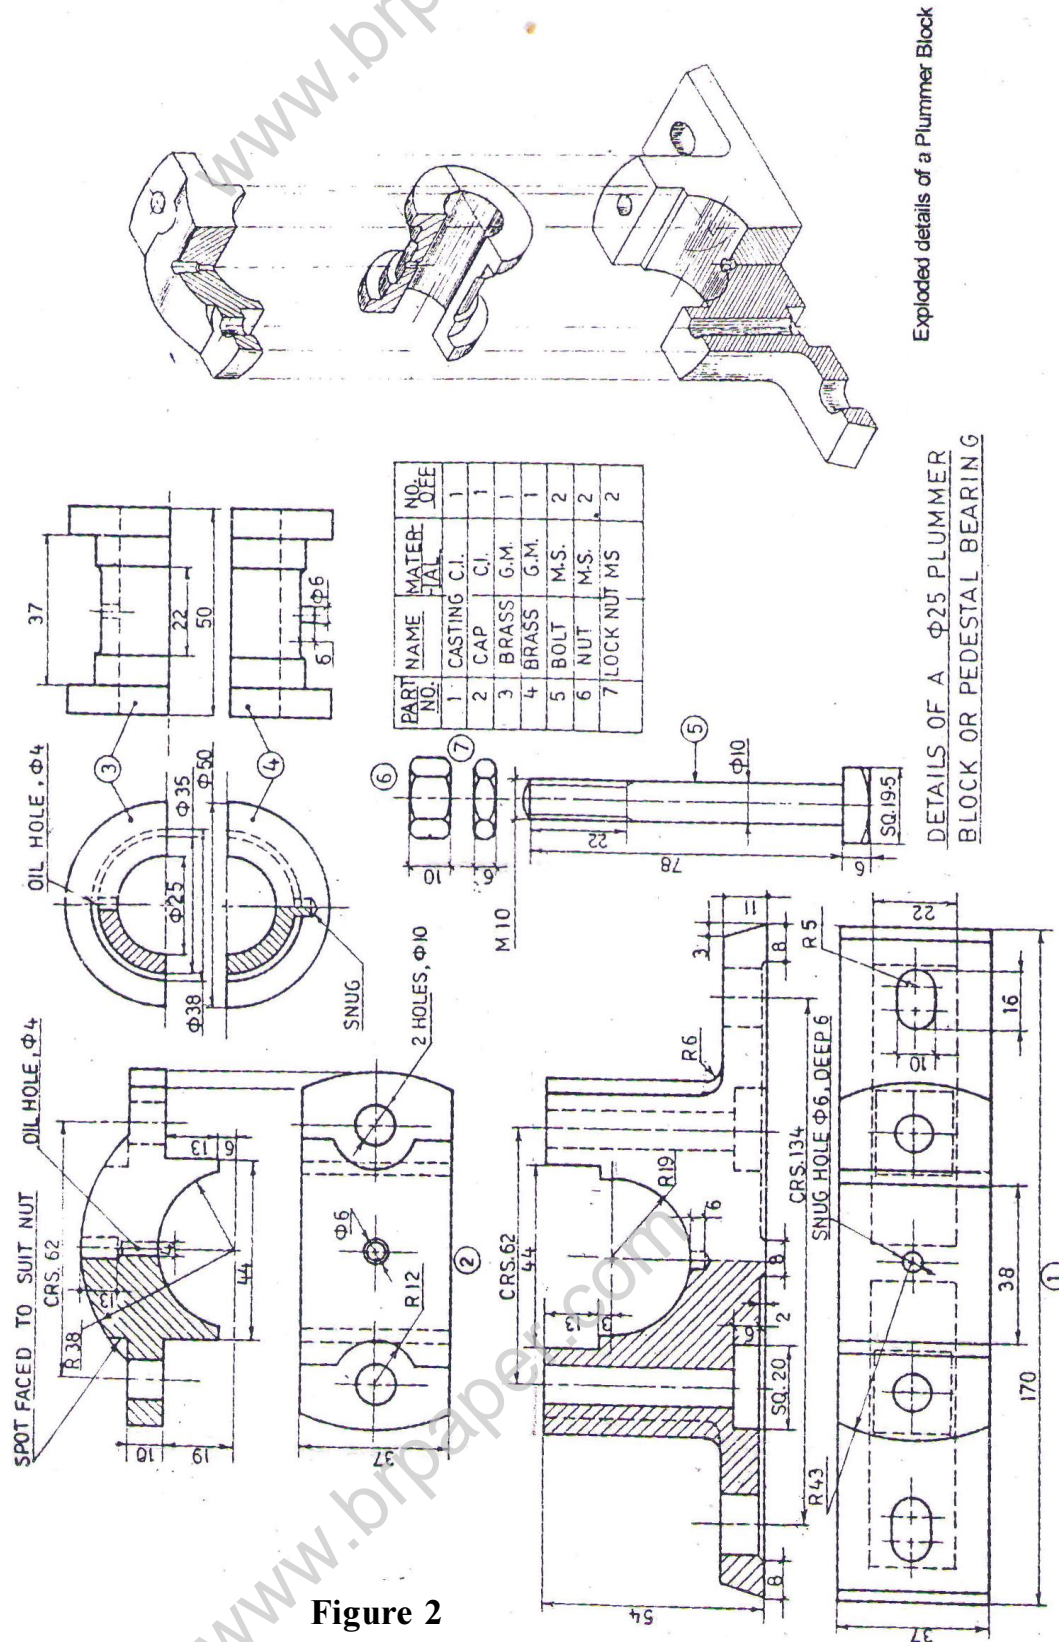

Figure 2
7. Figure 2 shows the Details of a Plummer Block. Draw the Assembly of the same and show it by drawing elevation of left half in section and simple plan.